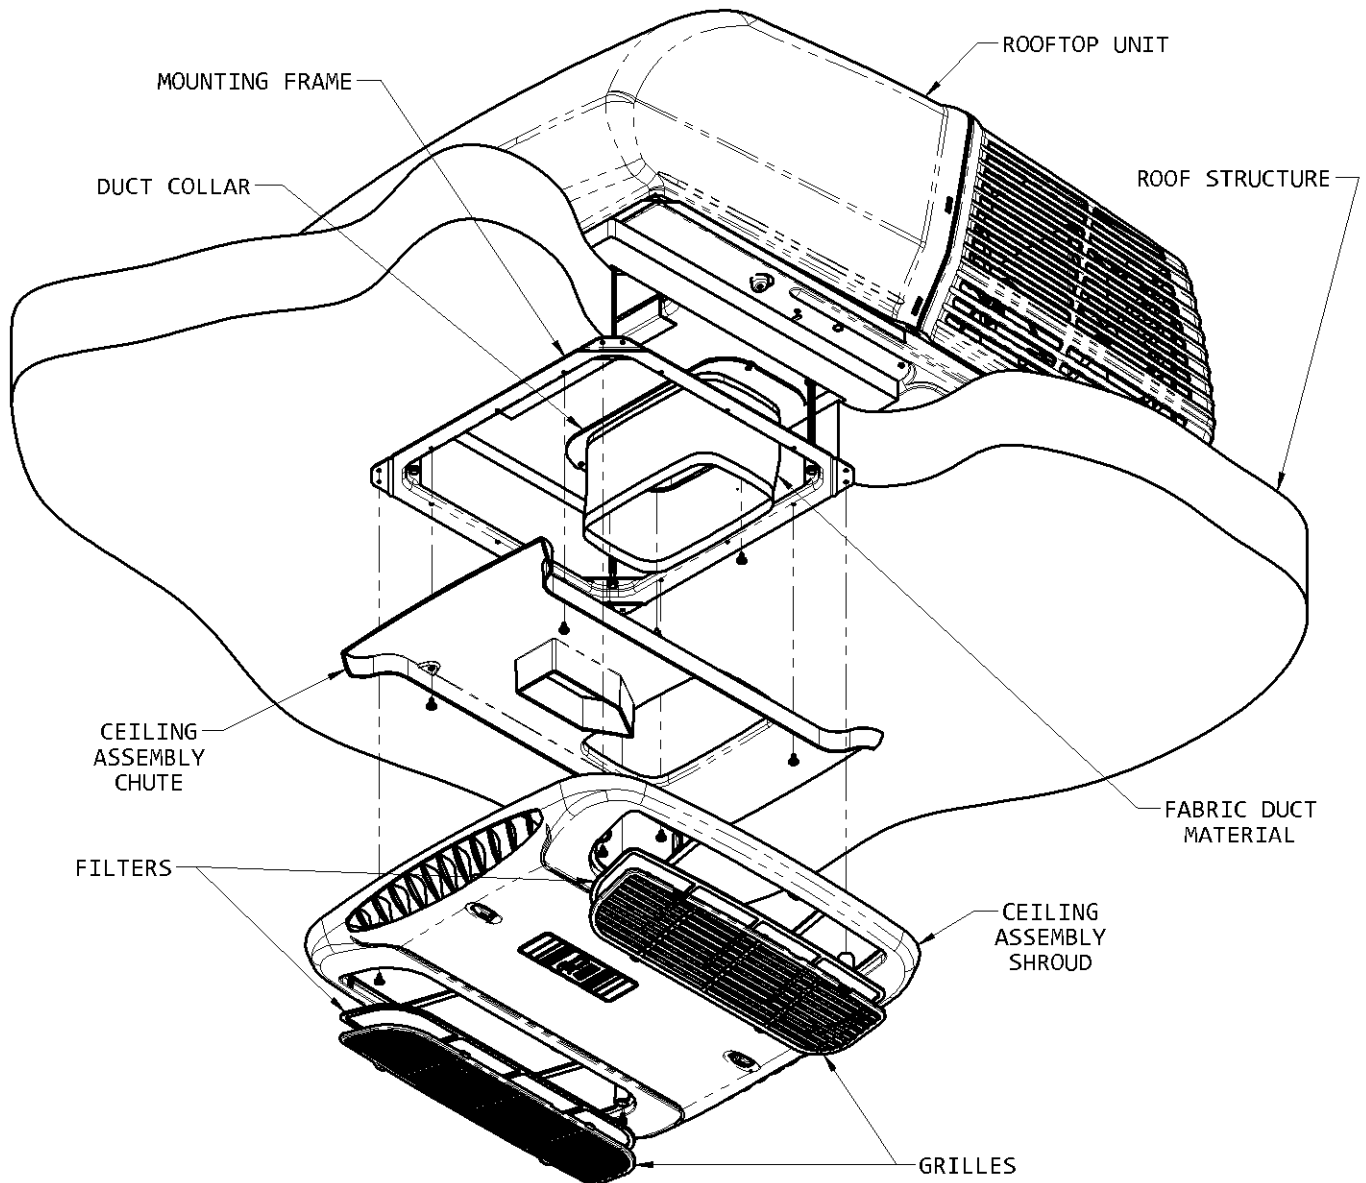

FIGURE 8
- B. Fasten the duct collar to the basepan of the air conditioner with 3 provided screws (see Figure 8).
- C. Raise the ceiling assembly chute to the unit mounting frame and secure the chute with 4 provided screws (see Figure 8).
- E. Raise the ceiling assembly shroud, oriented as shown, and while insuring it meshes with the chute, secure to the mounting frame with 4 provided screws (see Figure 8).